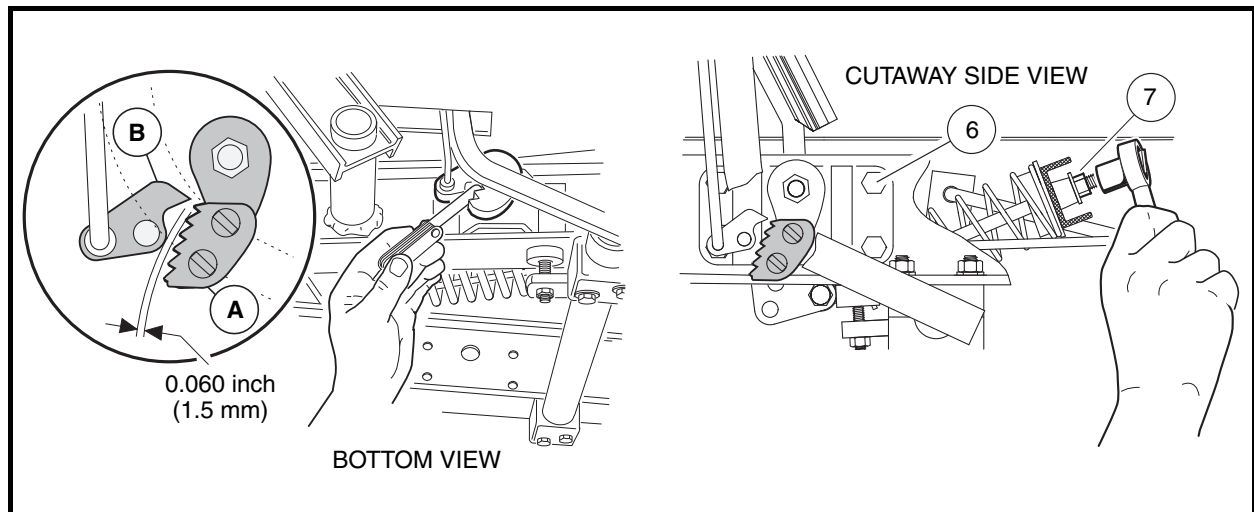

Figure 5-24 Park Brake Ratchet/Pawl Gap Adjustment
- 3.2. Adjust retaining nut (7) on spring support rod until there is a 0.060 inch (1.5 mm) gap between the pawl and the tips of the ratchet teeth. Use a feeler gauge to verify the gap (**Figure 5-24, Page 5-17**). The gap should be consistent through range of pawl movement. If the gap is not consistent, loosen the four bolts (6) securing the accelerator pivot rod supports and adjust the supports. If the gap becomes smaller as the park brake pedal is pressed, move the pivot rod supports slightly rearward until the gap is consistent. If the gap becomes larger as the park brake pedal is pressed, move the pivot rod supports slightly forward until gap is consistent.